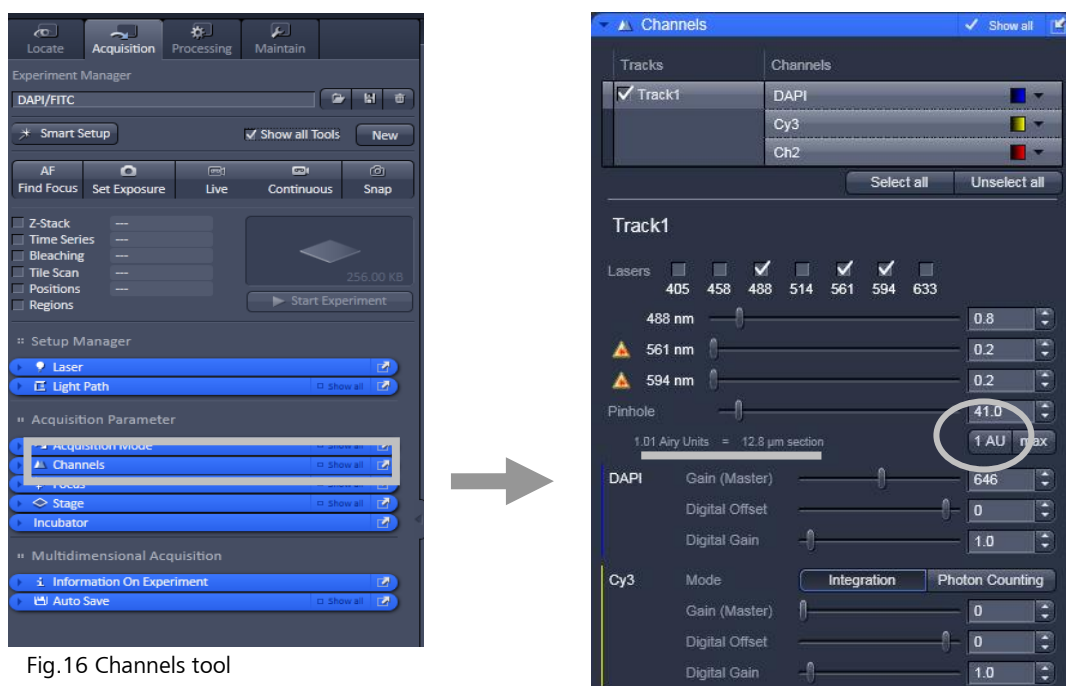

Fig.16 Channels tool
- Set the **Pinhole** to **1 Airy Unit** (Fig. 16)